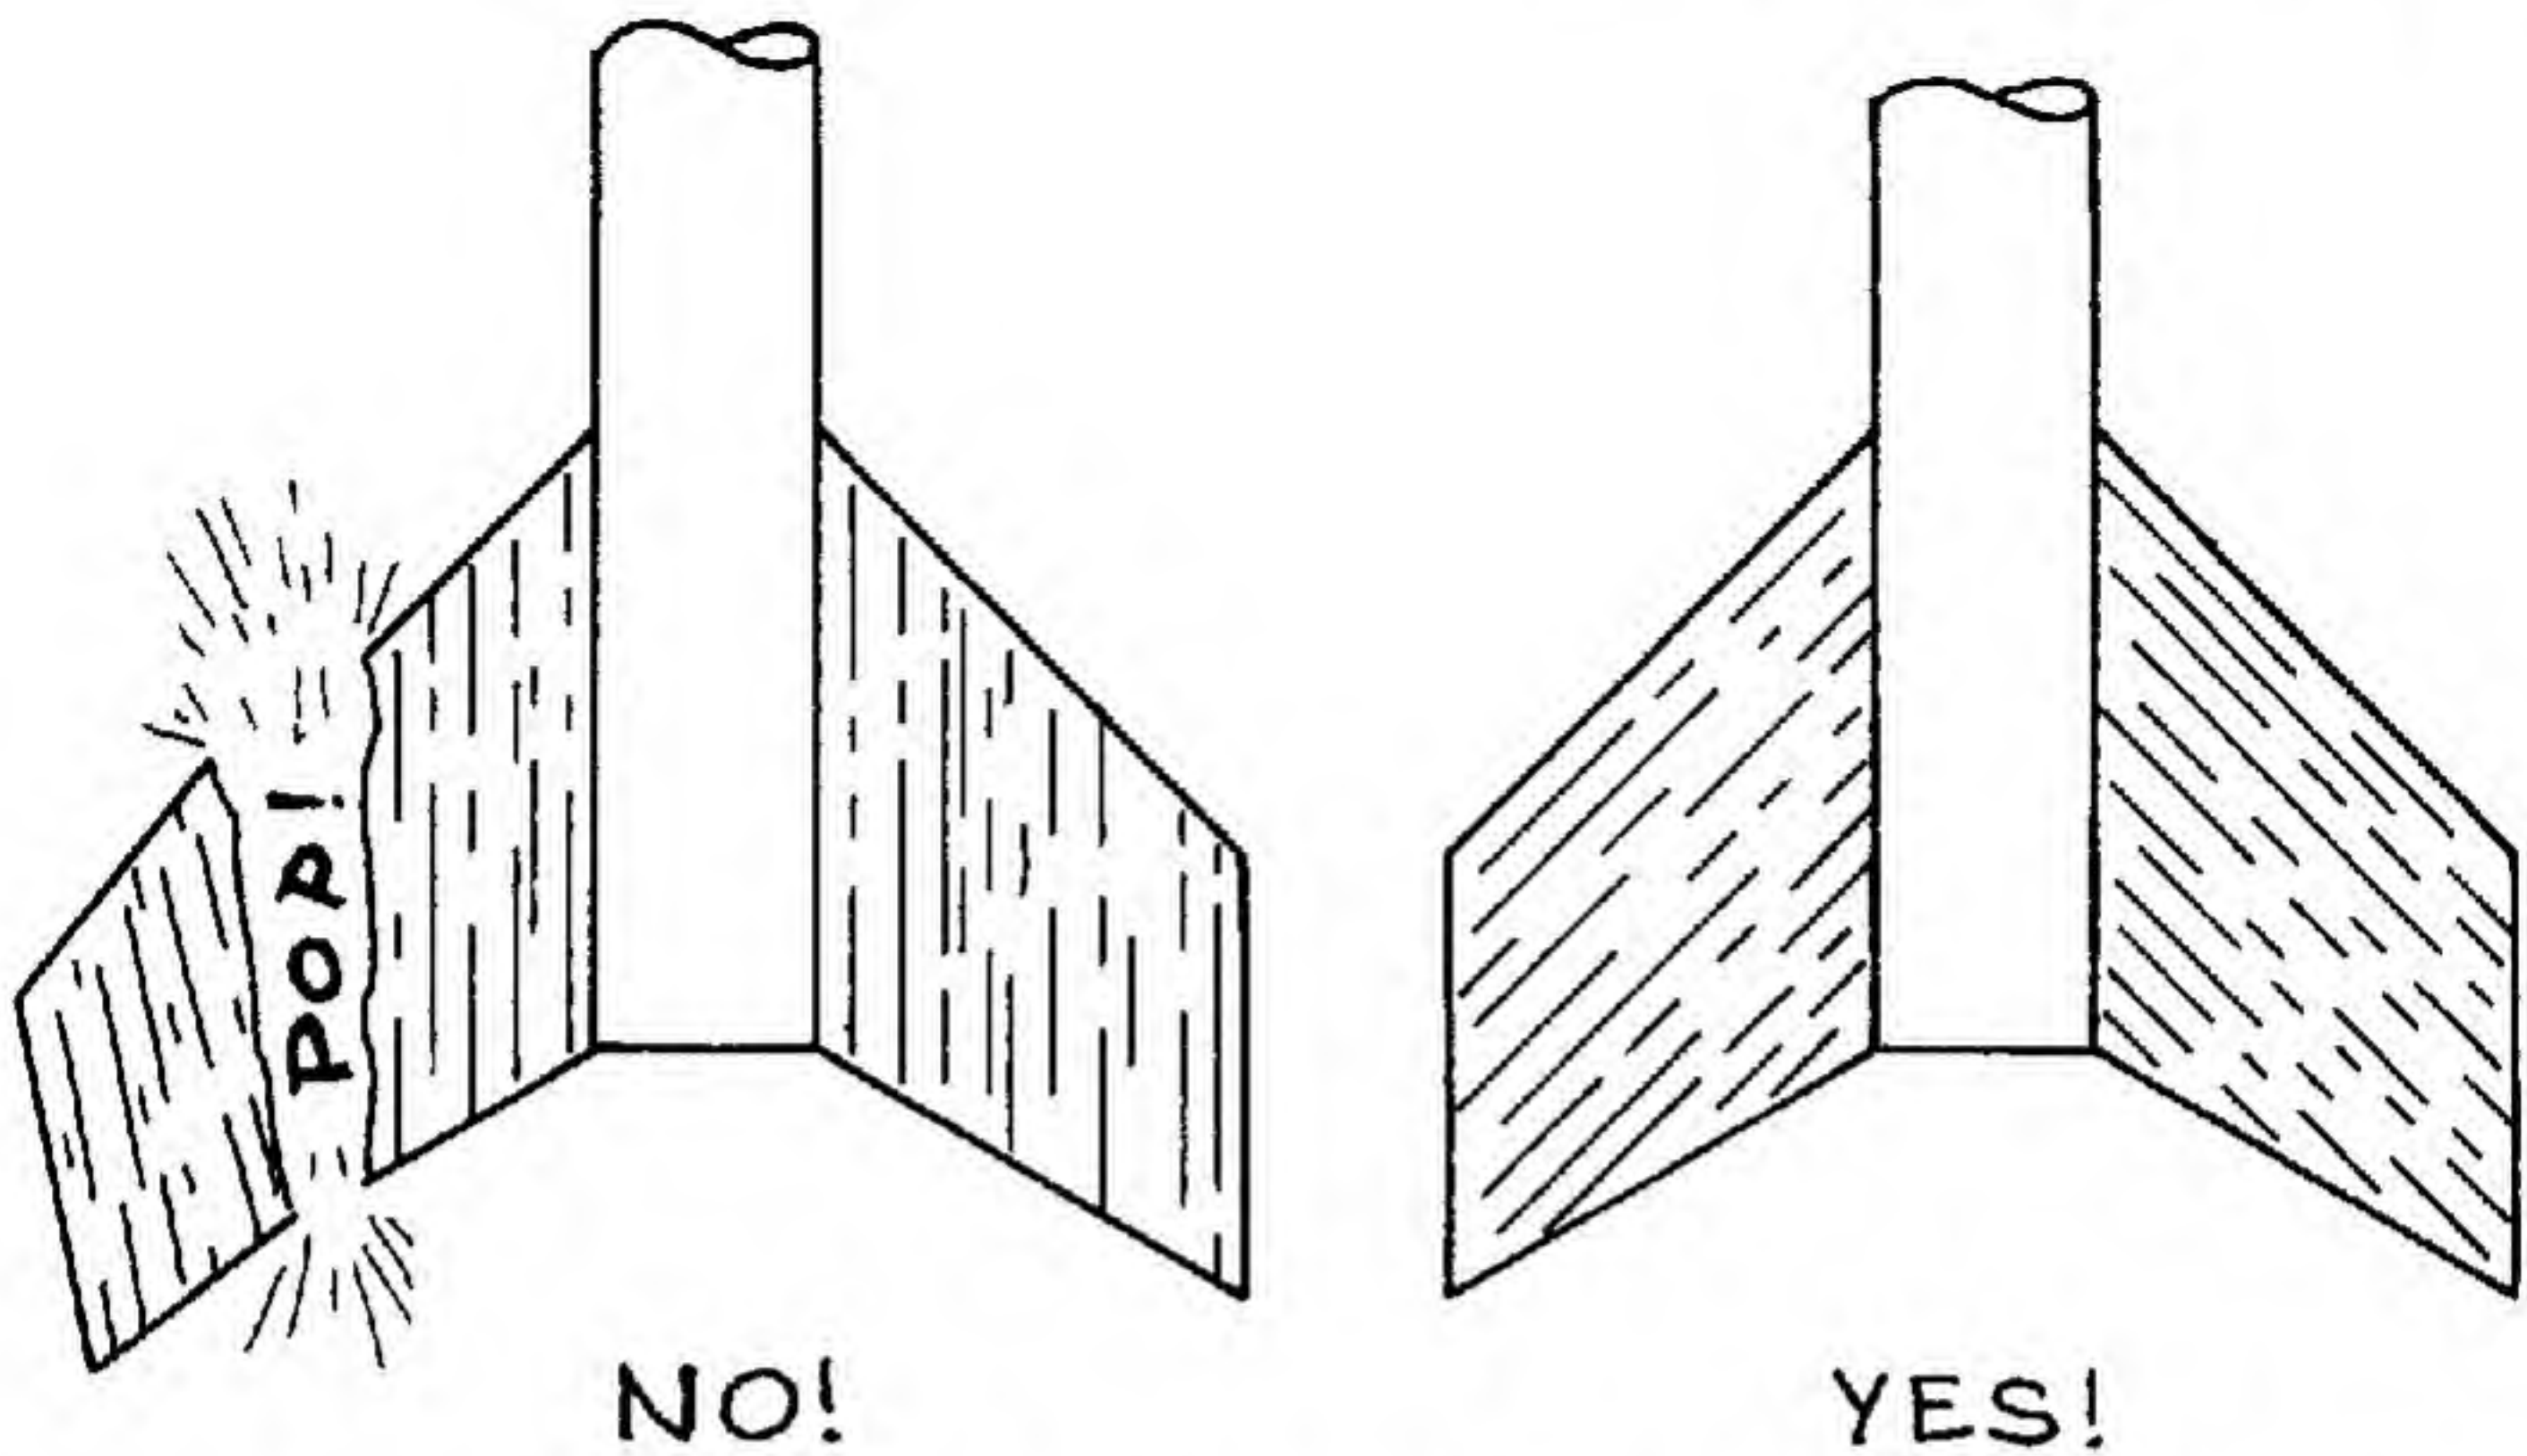

FIGURE 4-5 Always cut fins so that the balsa wood grain follows the leading edge of the fin pattern.
**Important:** When laying out a fin pattern on a balsa sheet, align the fin so that the grain of the balsa runs parallel to the leading edge of the fin (see Figure 4-5) or *outward* from the body tube. This is not a cheap trick to get you